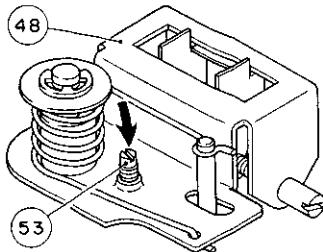
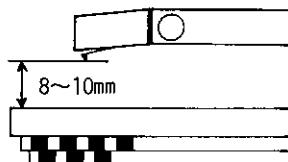

Figure 19
Figure 20
1. Remove the Cabinet top according to DISASSEMBLY INSTRUCTIONS (B) (page 3).
2. Turn the Screw (53) described in Fig. 19 so that the clearance between stylus and turntable platter will be within 8~10 mm when the tonearm is in up position (Fig. 20).